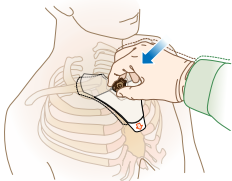

FIGURE 5
8. **Seat the depth probes of the sternal locator on the surface of the sternum by pressing down firmly with both hands.** (See Figure 5)